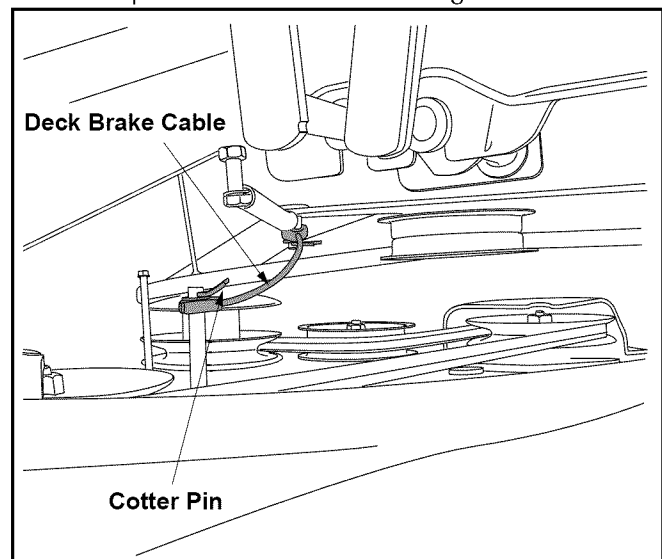

Figure 22
- On all models equipped with a manual PTO, locate and unhook the deck brake cable by removing the cotter pin which secures it. See Figure 22.